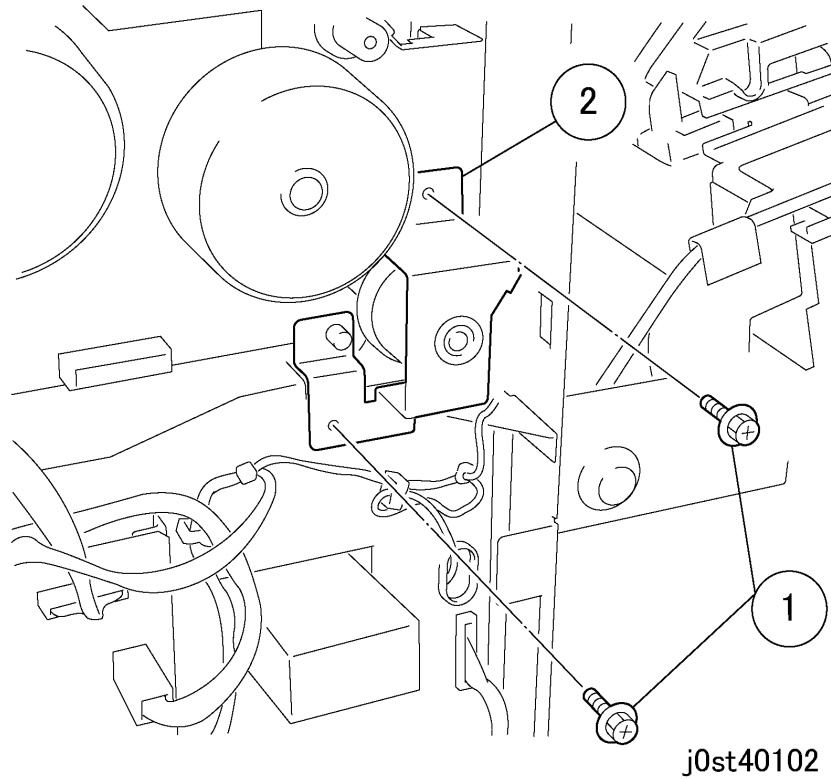

Figure 4 Removing the bracket (j0st40102)
7. Remove the bracket. (Figure 4)